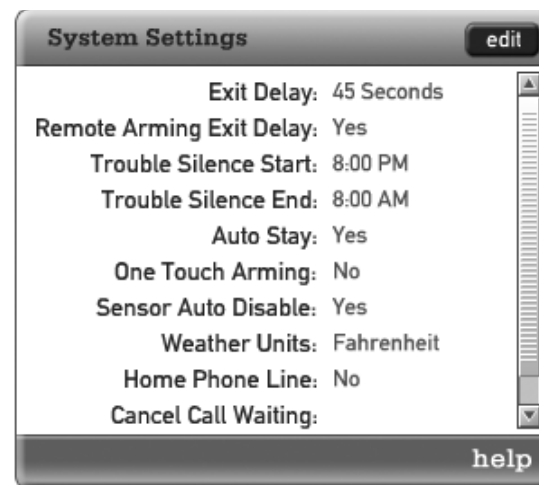

Figure 27. LifeShield System Settings Screen - Edit Auto Stay/One Touch Arming
*To change the Auto Stay selection (Figure 27):*
The system can be set so that your **User Code** is not needed when arming. To set this mode, change the **One Touch Arming** selection to **Yes** (Figure 27):